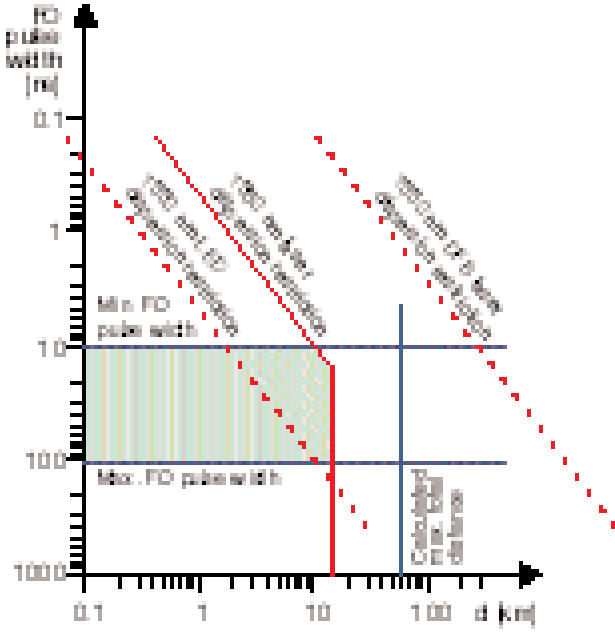

Figure A-2. Operation Diagram
The analysis of the planned fiber optic link is a two-step process. First, you must calculate the attenuation of the complete system to ensure that the units can cope with the losses of the link. Then, you must enter the intended distance between the units into the operation diagram (see **Figure A-2**). (Make sure the distance is confirmed by the calculation above.) These calculations are explained in **Section A.2**.
The operation diagram (**Figure A-2**) shows one example diagram and one blank diagram to be completed based on real values:
4. Shade the allowed operation range as shown in **Figure A-2**.